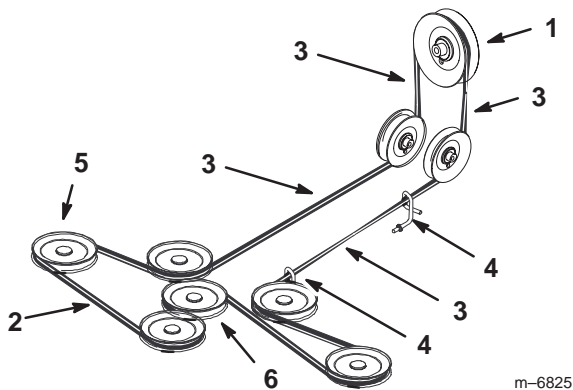

Figure 73
5. Install the new mower belt around the mower spindle pulleys, mower idler pulley, into the belt guides, into rear idler arm assembly, and the clutch (Fig. 73).
Important Check the amount of twist in the belt between the pulleys. Make sure it is only what is specified in Figure 73.